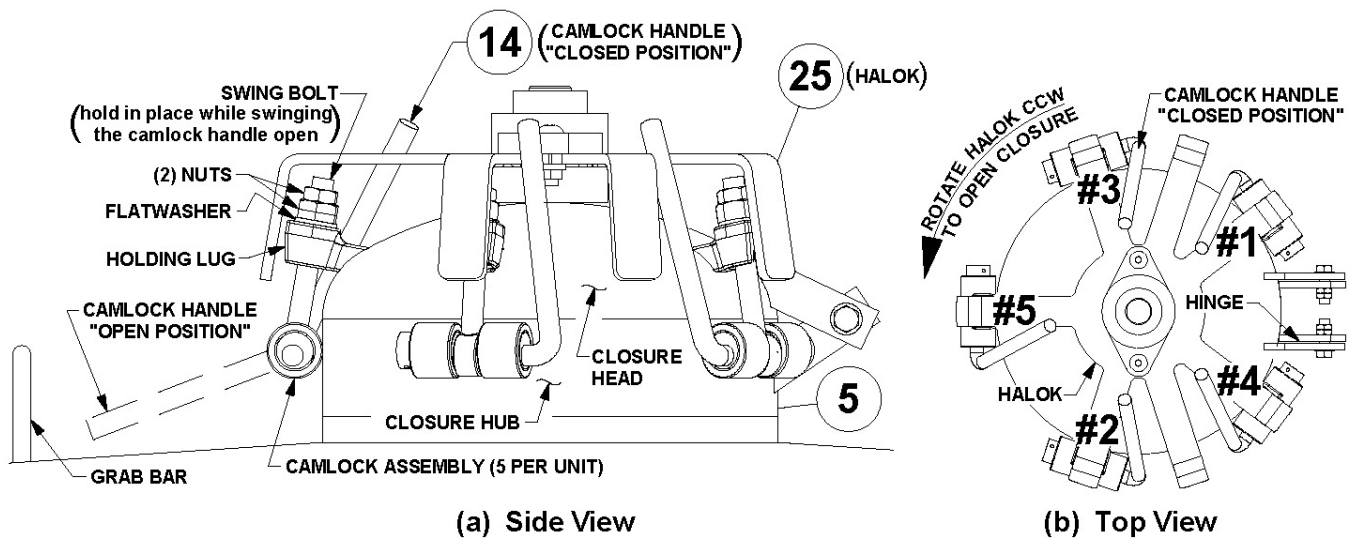

Figure 6.3 – Bulk Abrasive Blaster Closure Assembly
6.3.7. Each time the closure is opened all the camlock assemblies and hinge assemblies must be inspected for damage, including but not limited to, corrosion, cracks, and deformations. Make sure all the swing bolts, nuts, washers, cams, spring pins, and handles are in place (See Drawing 9.3(a)). Inspect the threads of each swing bolt and (2) nuts for corrosion or wear. Each camlock assembly and hinge must be tested for ease of operation. Any camlock, swing bolt, nut, or hinge that show signs of damage, corrosion, wear, or does not swing freely must be repaired or replaced *before* re-pressurizing the blast vessel. The camlock handles must be installed into the cam lugs as shown in Figure 6.3(b) so there is no interference with closure head handle or hinges and to insure proper operation of the closure Halok (#25). The torque on the camlock assembly nuts must be properly adjusted. See Section 8.4 and 8.5 for closure maintenance instructions and adjustment procedures.
6.4 Closure Closing Procedure (See Figure 6.3)